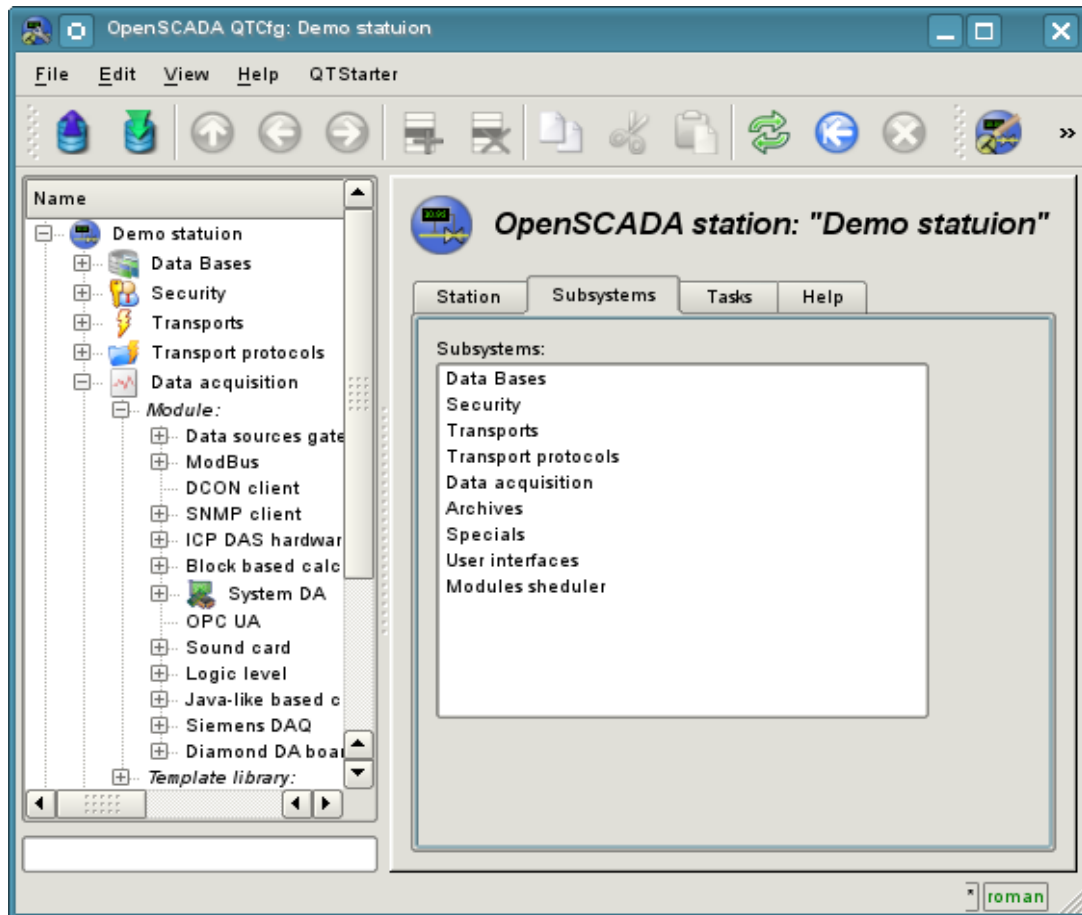

Fig 4b. "Subsystems" tab of the main page of the configuration of the station.
- Tab "Subsystems" tab contains the list of subsystems (Fig. 4b) and allows you to jump directly to them using the context menu.